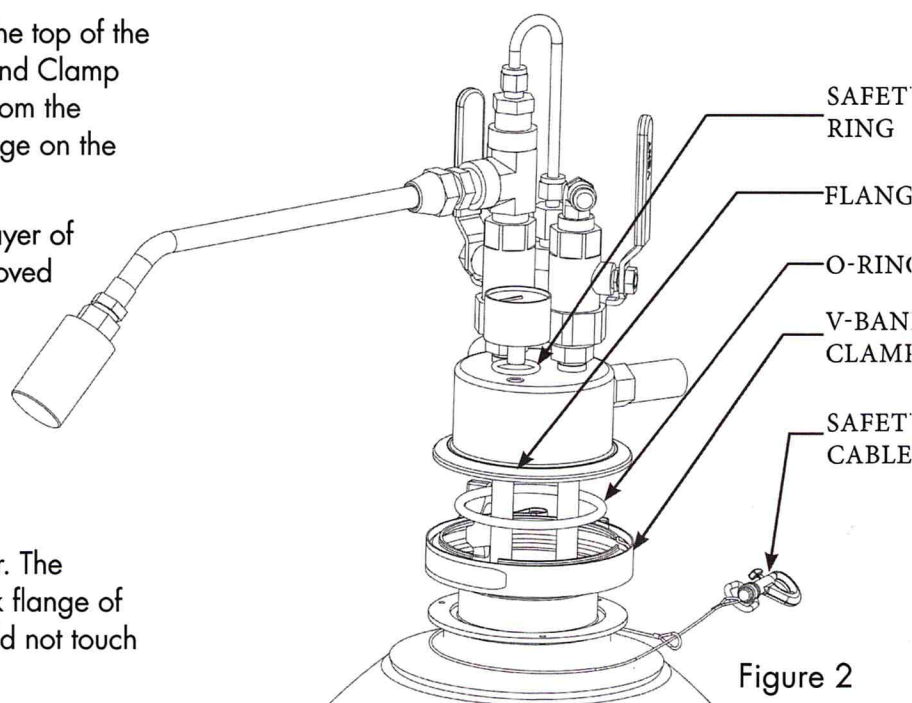

Figure 2
5. Position the safety cable assembly around the top of the Dewar, underneath the flange. Loosen V-Band Clamp until the clamp is large enough to remove from the LWD. Drop the band clamp around the flange on the Dewar (see Figure 2).
10. Attach the snap of the safety cable to the ring on the LWD (see figure 2).